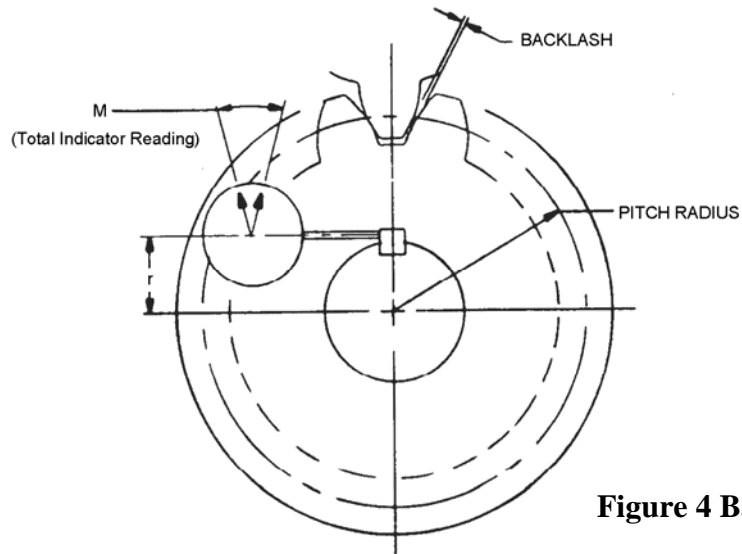

Figure 4 Backlash Check
- 5.14 Place a dial indicator against the key and set to zero (Figure 4).
- 5.15 Measure the distance from the center of the shaft (500) to the contact point between the indicator and key (Figure 4). This is the “r” value in the equation in Step 7.6.